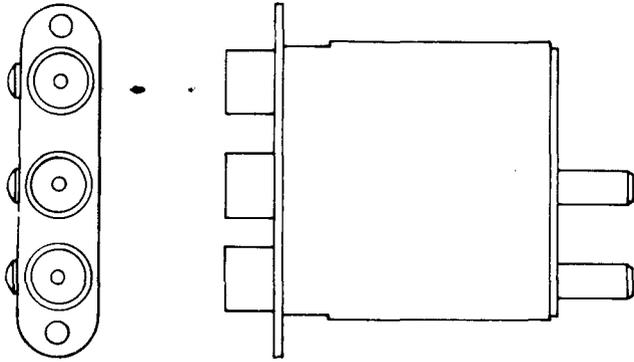

Fig. 2—627A or B Jack
2.02 **627A and B:** The 627A and B are triple coaxial-type jacks (Fig. 2) consisting of three jacks mounted in a common case. The center contacts of the two through jacks are connected together electrically. When a plug is inserted in either jack, the electrical connection is broken and a through connection is provided for that jack. The remaining jack is terminated to ground through a 75-ohm resistor. When a plug is inserted in both jacks, the electrical connection is broken and a through connection is provided in each jack. The third jack is for monitoring purposes. These jacks are designed to mate with the 440- and similar-type plugs (75 ohm, 0.29 inch outside diameter coaxial plugs). Two KS-15712, L2, shield connectors are shipped loose. The test voltage for the 627A and B jacks is 1000 volts ac.